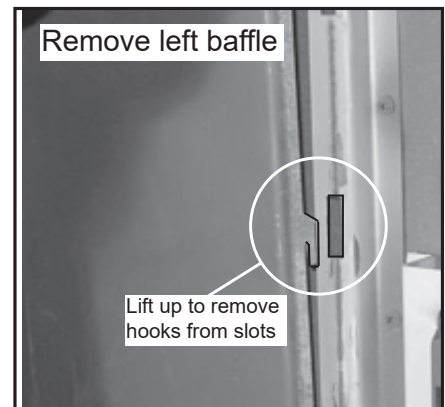

Figure 26.3
3. Remove the left baffle and then the right baffle by pulling up and then towards you. The left and right baffles have similar hooks and slots **(Figures 26.3 and 26.4)**.